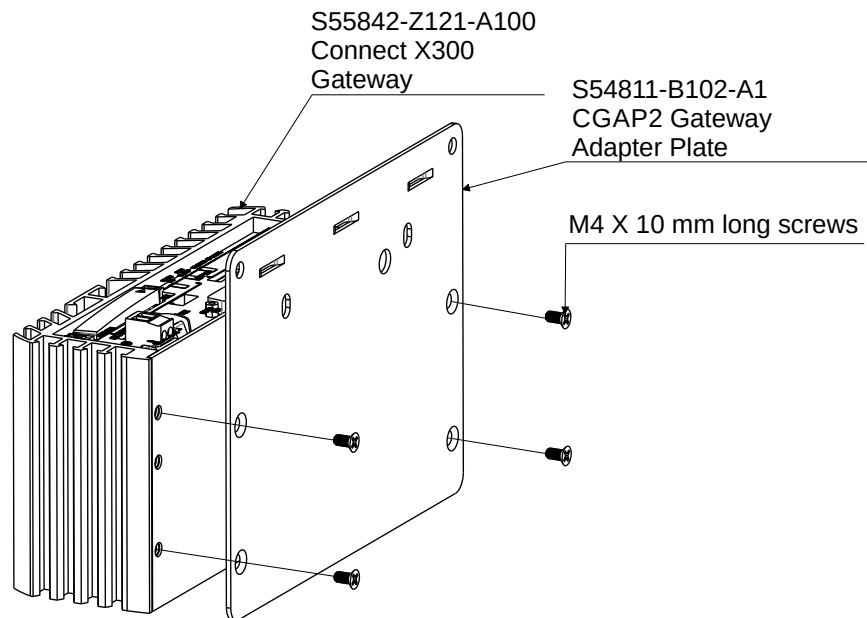

Figure 1
1. Using the hardware provided, mount the Connect X300 Gateway onto the CGAP2 adapter plate as shown on Figure 1.